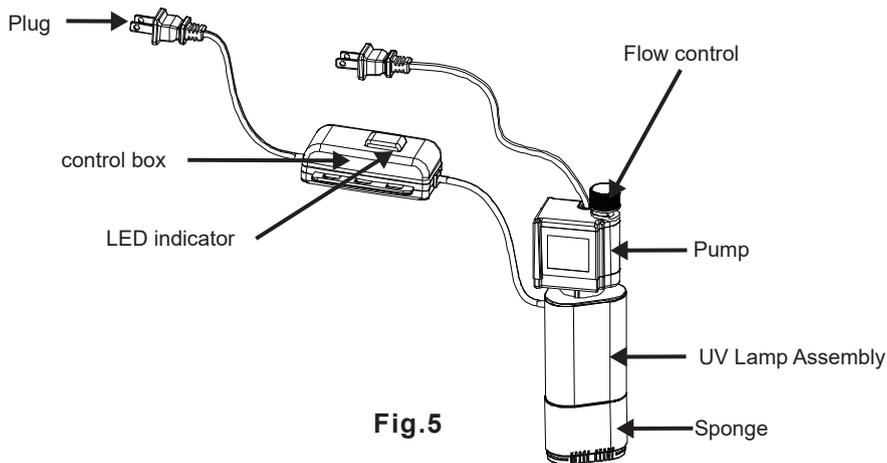

Fig.5
2. Identify components (Ref. Fig.5)